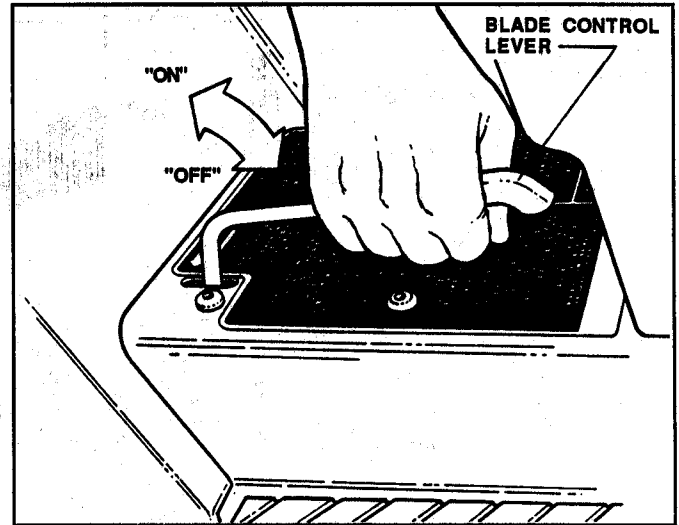
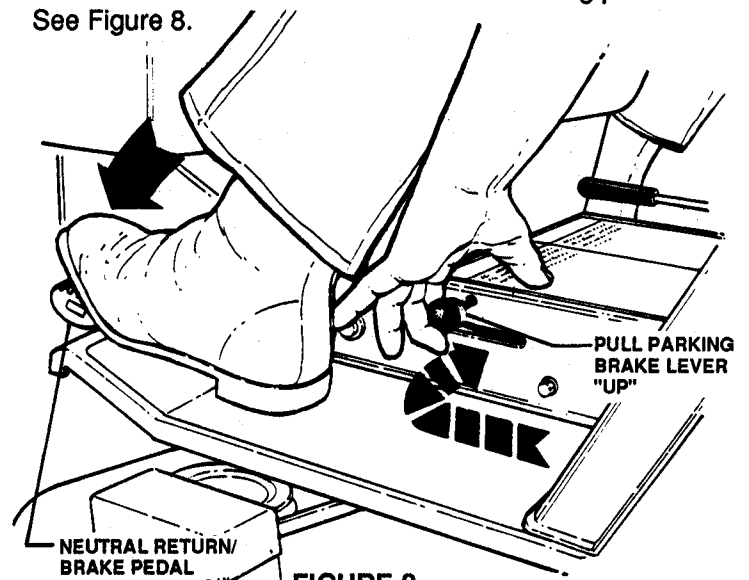

FIGURE 4
FIGURE 8
MOWER BLADE: *STOP MOWER BLADE* by pushing BLADE CONTROL lever downward to "OFF". See Figure 4.
- RE-ADJUST SEAT as needed to most comfortable position. (Refer to Pages 5 & 6, Figure 8).
1. PUSH BLADE CONTROL LEVER downward to "OFF" position (Fig. 4) and fully depress the NEUTRAL RETURN/BRAKE PEDAL (Fig. 8), so that Safety Interlock System will allow engine to start.
Depress NEUTRAL RETURN/BRAKE PEDAL. Pull PARKING BRAKE LEVER "UP" while releasing pedal. See Figure 8.